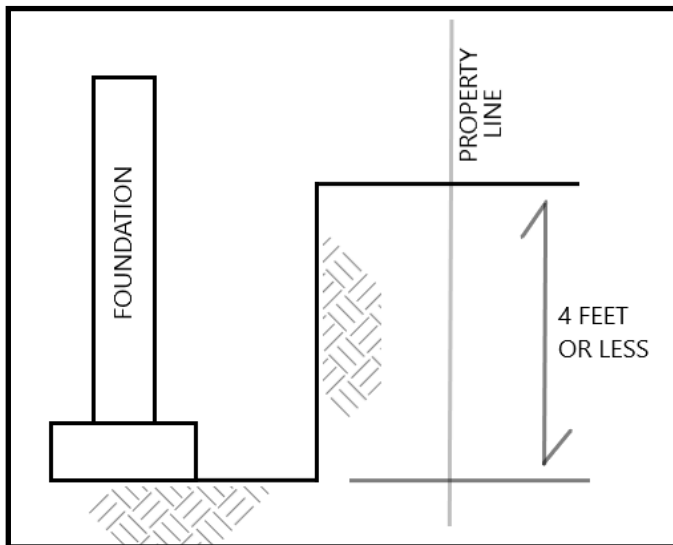
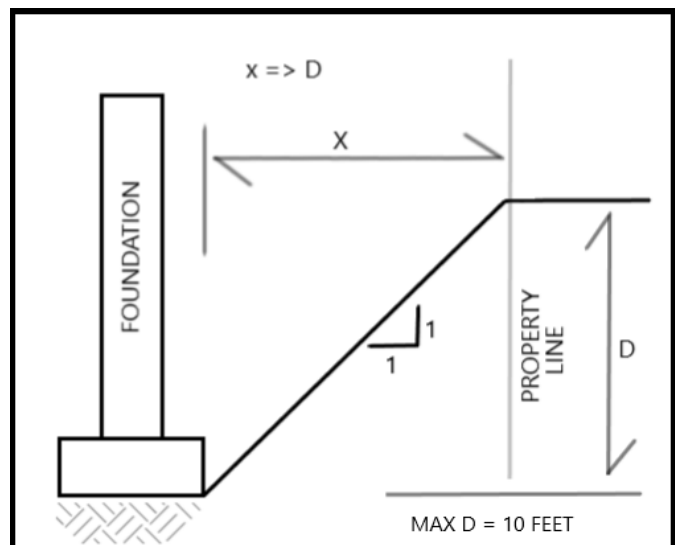

Figure 1 - Excavation is less 4 feet
Figure 2 - 1H:1V Cut Slope
Figures 1 and 2 illustrate minimum excavation requirements. If the excavation is less than 4 feet in height and there are no structures above the excavation, as shown in Figure 1, BDS generally considers a vertical temporary cut reasonably stable. If the excavation is 4 to 10 feet deep, the excavation must be cut at a slope inclination of 1 Horizontal to 1 Vertical (1H:1V) or flatter. The distance between the heel of the foundation wall and the property line, represented as “X” in Figure 2, must be greater than the total excavation depth, represented as “D”.
- Figures 1, 2, and 6 are acceptable for typical flat sites without a registered design professional.